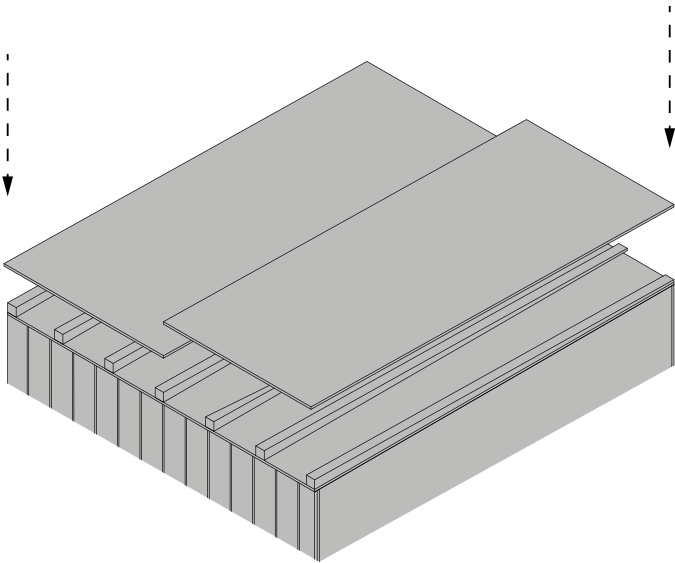

Figure 14
- 19) Set the plywood on top of the sloped wooden poles (see figure 14).